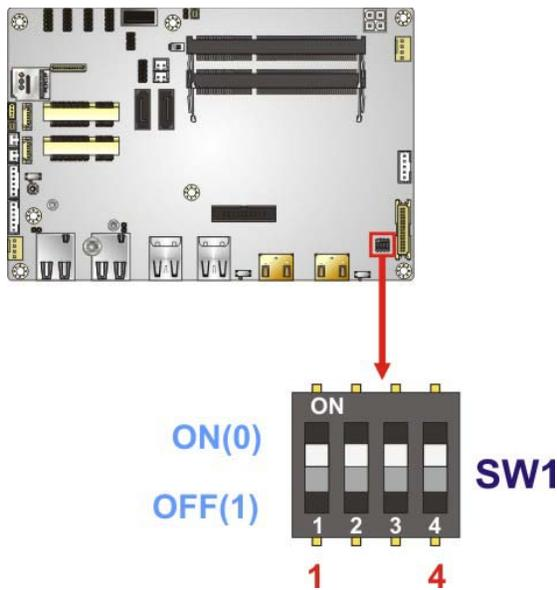

Figure 4-36: LVDS Panel Resolution Select Switch Location
- Jumper Location: See **Figure 4-36**